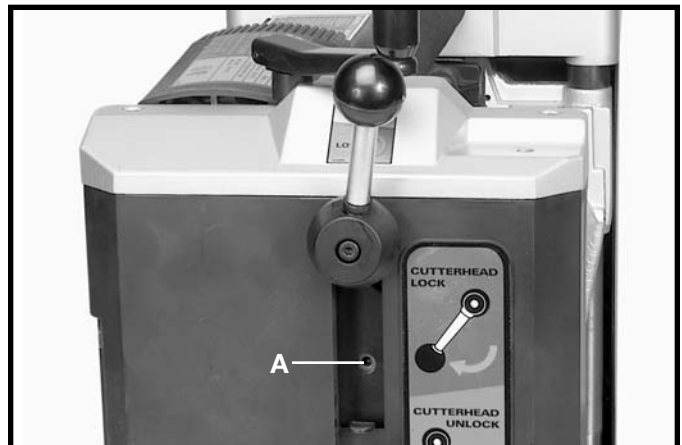
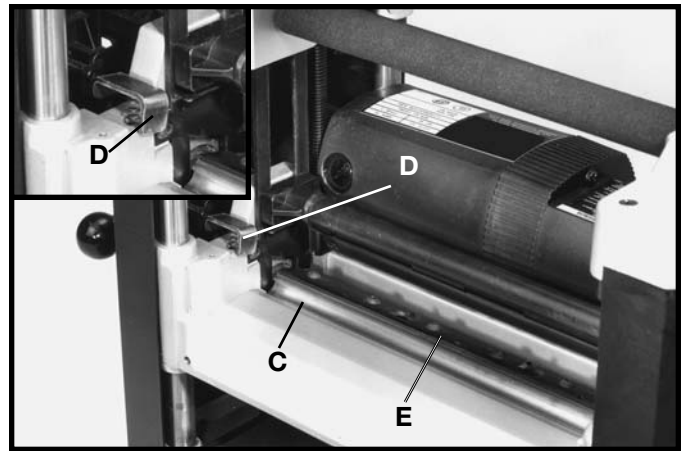

Fig. 25
Fig. 26
3. Figure 26 illustrates the cutterhead guard removed, exposing the cutterhead (C).
4. Using the wrench supplied, rotate cutterhead by inserting end of wrench into the hex hole (A) Fig. 25. Rotate cutterhead until the cutterhead lock (D) Fig. 26, engages and locks the cutterhead (C) in place.
5. Figure 26 illustrates the cutterhead (C) locked in place allowing access to the knife locking bar (E).